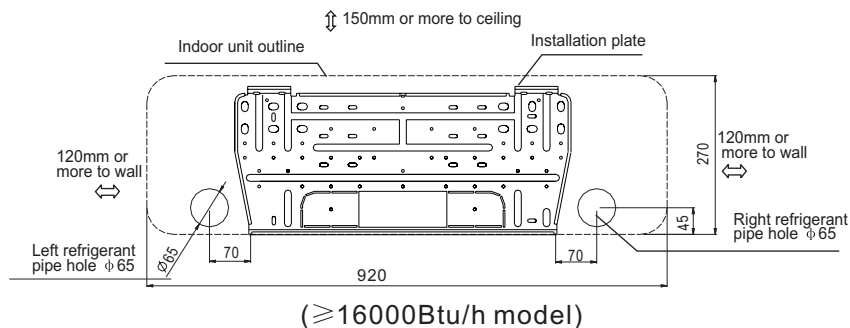

Fig.5
1. Determine hole positions according to the diagram detailed in Fig.5. Drill one (1) hole (φ 65mm) slanting slightly to outdoor side.